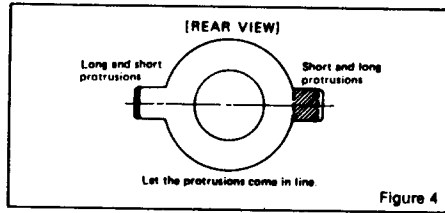

Figure 4
6.4 Bring the long and short purity tab protrusions in line with each other to obtain near-zero magnetic field (figure 4) (In some cases bring the flat and indented tabs together to obtain zero field). Protrusions can then be vertical, horizontal or at any convenient angle to start.